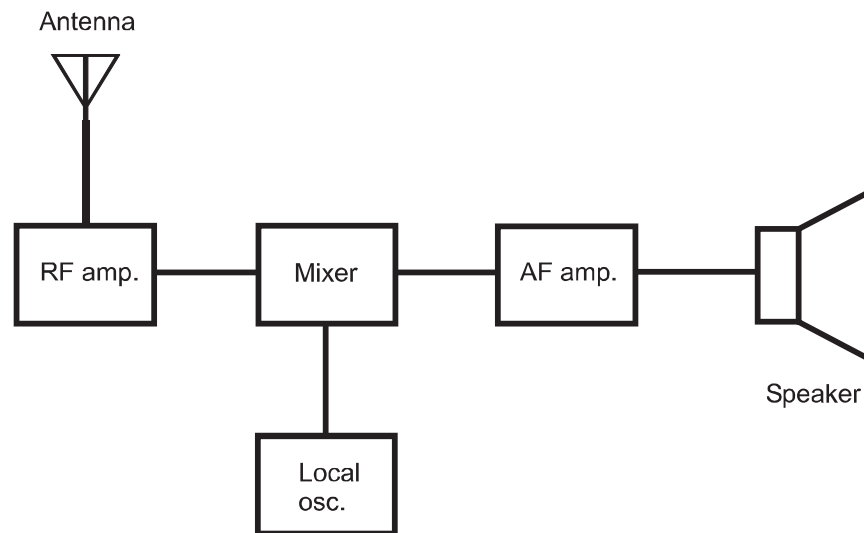

Fig. 10-2. Block diagram of a direct-conversion radio receiver.
A *direct-conversion receiver* derives its output by mixing incoming signals with the output of a variable-frequency *local oscillator* (LO). The received signal is fed into a *mixer*, along with the output of the LO. The mixer also serves as the detector. Figure 10-2 is a simplified block diagram of a direct-conversion receiver.